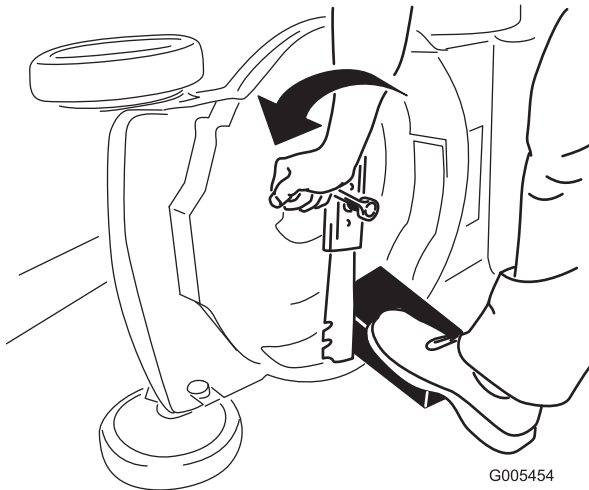

Figure 26
3. Use a block of wood to hold the blade steady (Figure 26).
4. Remove the blade, saving all mounting hardware (Figure 26).